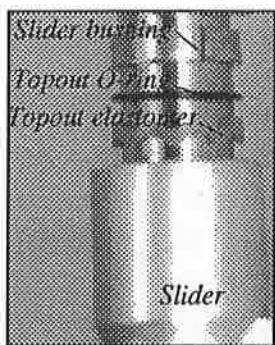

Fig. 19
3. Lubricate the stanchion bushing with fork oil and slide the stanchion into the slider. Slide a new topout elastomer and topout O-ring (Fig. 19) over the stanchion and into the slider.